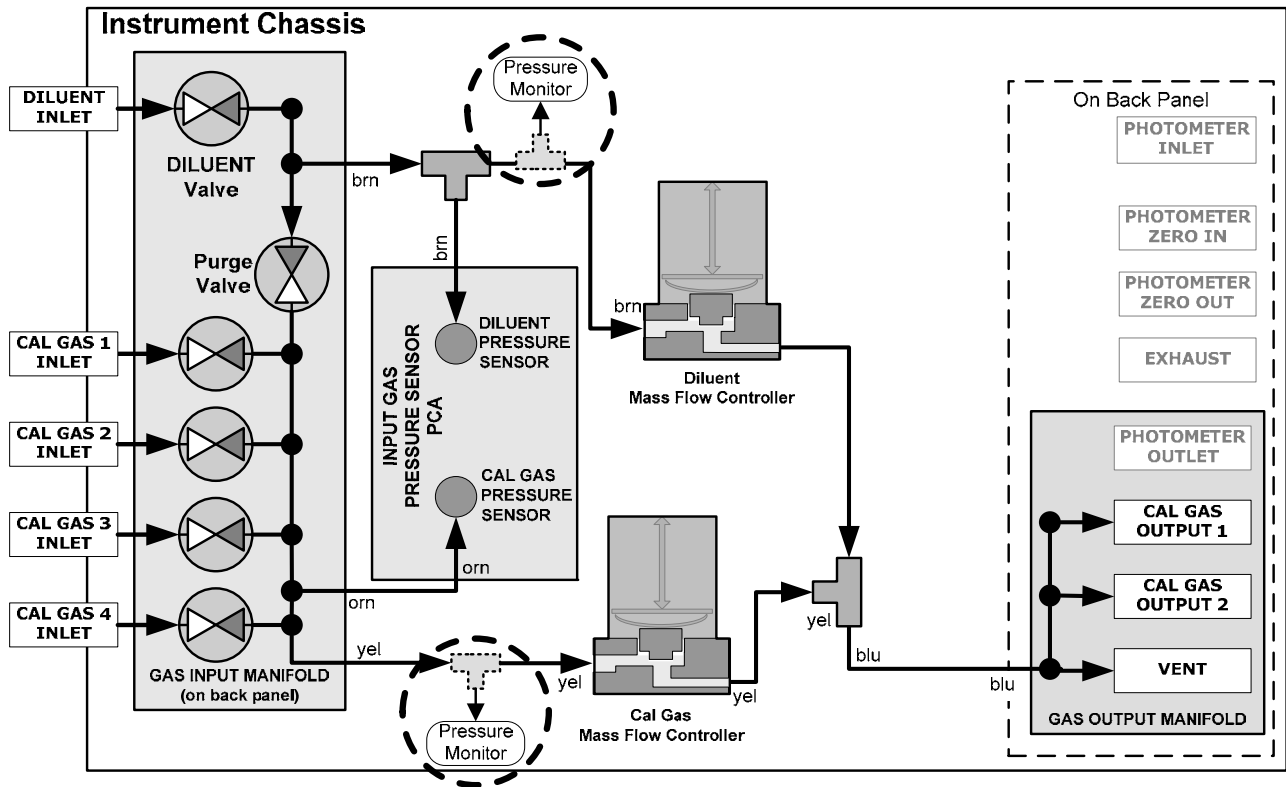

Figure 8-6: Pressure Monitor Points – T700 – Basic Unit
2. For the sensor being calibrated, insert a “T” pneumatic connector at the location described in Table 8-2 and shown in Figure 8-6 and Figure 8-7.